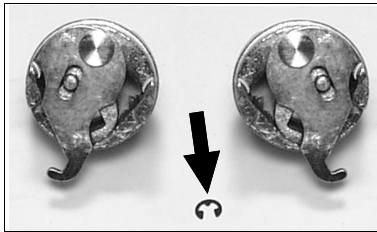

Fig. 2c: Re-install the retaining ring
- Re-install the retaining ring displayed in Fig. 2c (arrow).